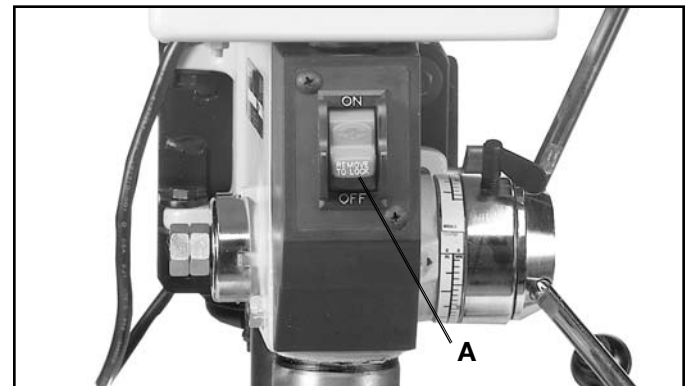

Fig. 25
The switch (A) Fig. 25, is located on the front of the drill press head. To turn the drill press "ON" move the switch to the up position. To turn the drill press "OFF" move the switch to the down position.